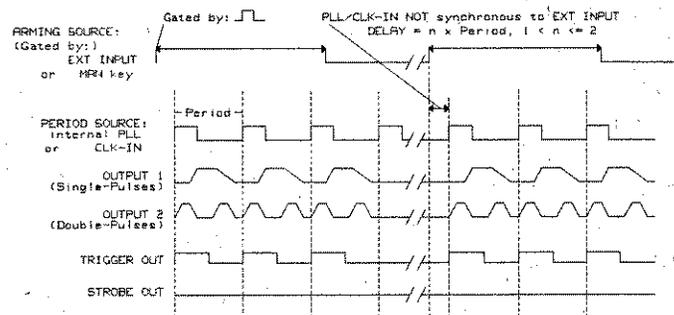

Figure 3-14.
- internal PLL (Higher accuracy, start of pulse not synchronized to trigger, see Figure 3-14)